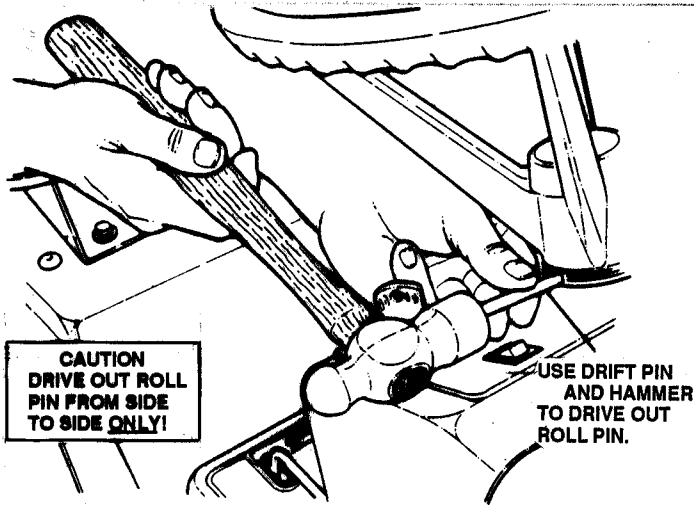

FIGURE 5.10
- (1) Using a drift pin and hammer, drive out the steering wheel roll pin. Remove steering wheel. See Figure 5.10.